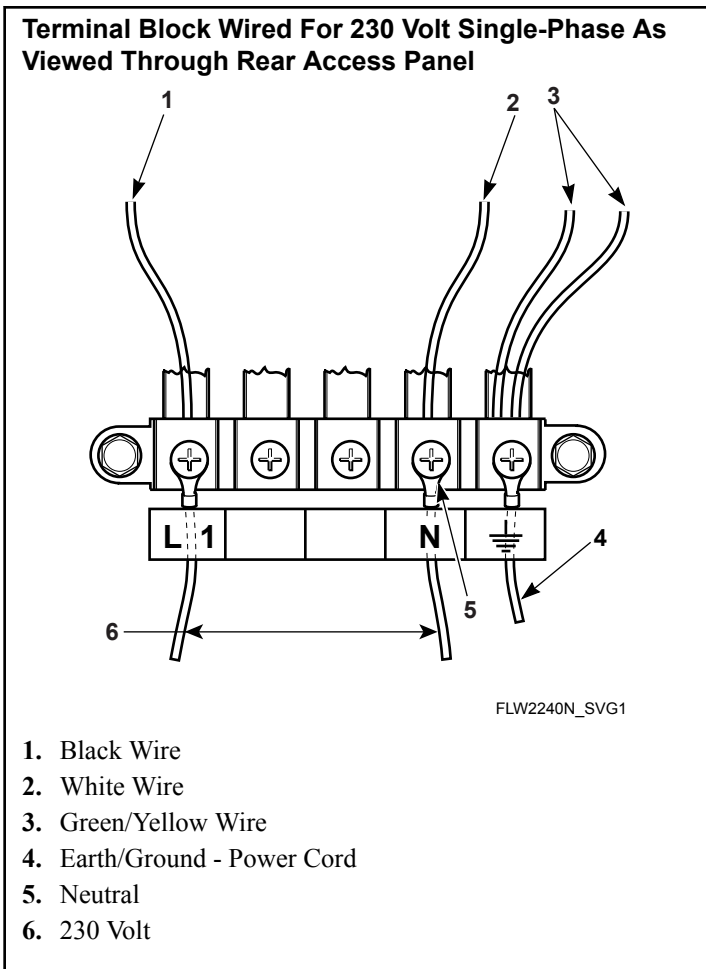

Figure 15
5. Attach power cord wires as shown in *Figure 15*.